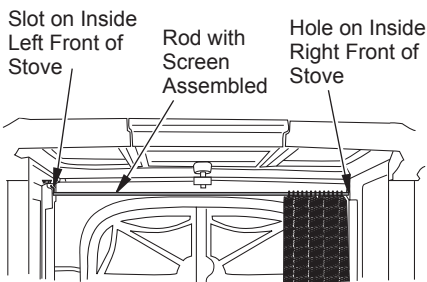

Figure 13 - Installing Screen Into Stove (View From Back of Stove)
2. From back of stove, insert rod into hole located inside right front of stove as shown in Figure 13.
3. Slip left side of rod down into slot on inside left front of stove (see Figure 13).